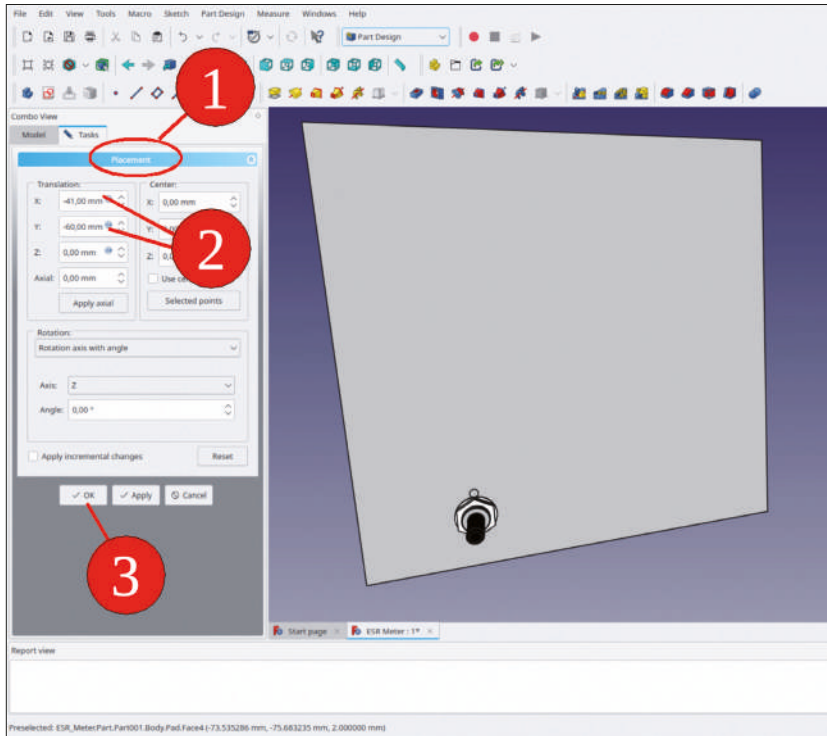

Figure 7-7
5. In the task window, click the X Translation field and roll either the mouse wheel (this is a fun part, due to the live update!) or enter the value manually. Set the X translation to -41 mm. In the same way, set the Y translation to -60 mm. If you enter the value manually, do not press the ENTER key if further changes are intended, as the ENTER key will close the task window. Just click the next edit field for more changes. If you are done, close the task window with the 'OK' button (Figure 7-7).